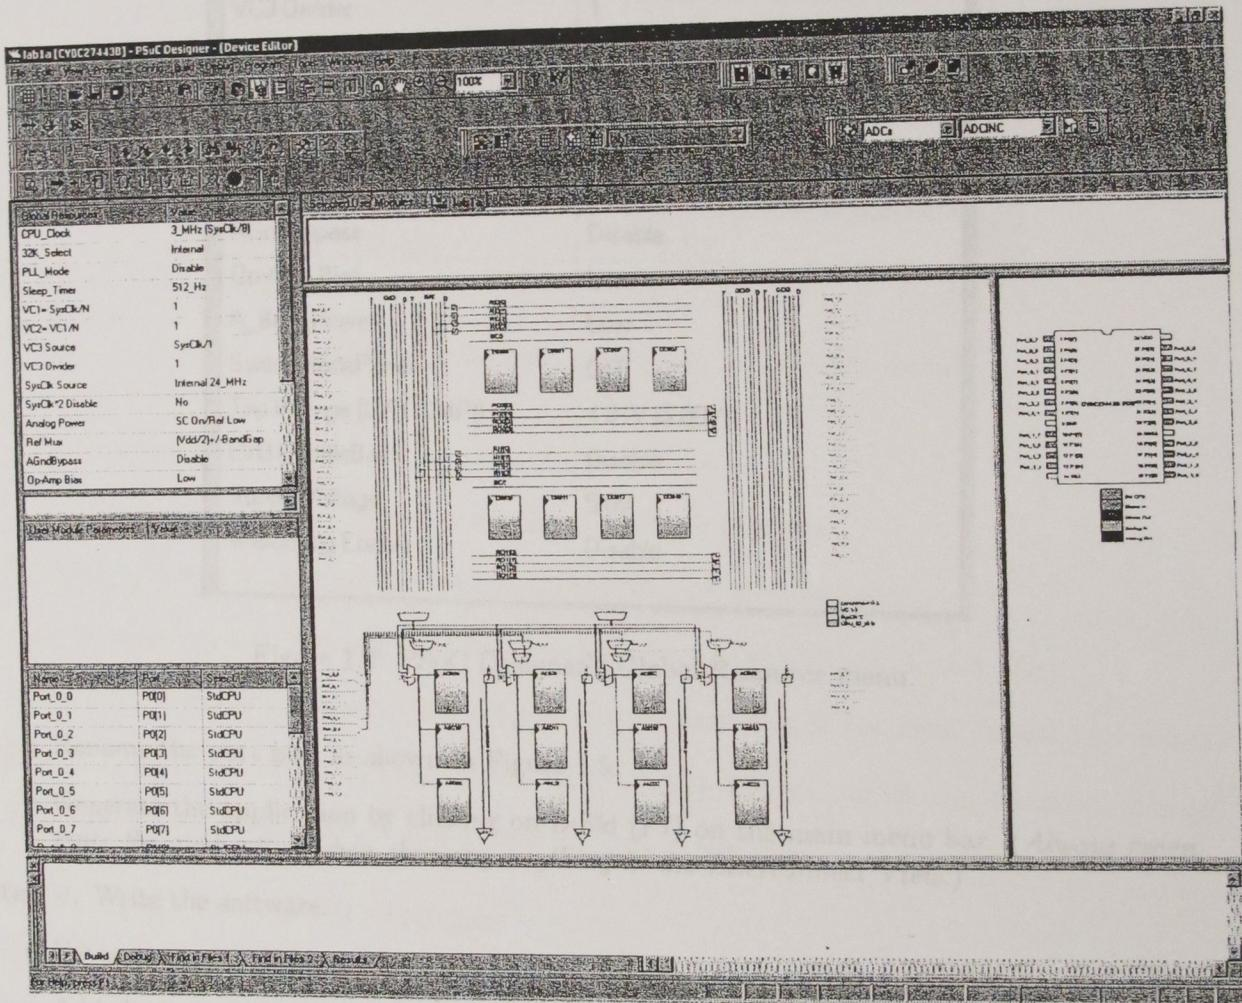

Figure 1.1: PSoC Designer's Interconnect View.
- Navigate to the **Device Editor** and then switch to the **Interconnect View**, as shown in Figure 1.1.
- The Port Selection window is located in the lower left of the PSoC Designer screen as shown in Figure 1.1. Change the port 1 pin drive selections from **Strong** to **PullUp** as shown in Figure 1.8.